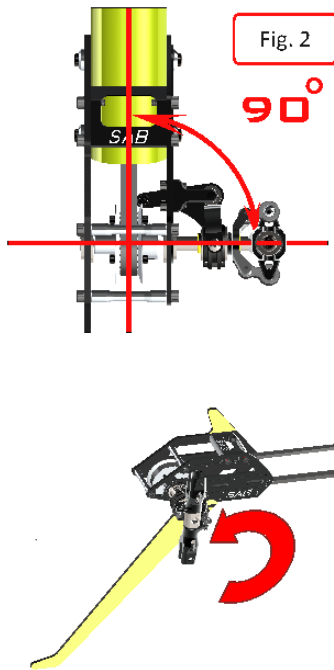

Fig. 2
- *Check that the tail output shaft is perpendicular to the tube. (**figure 2**)